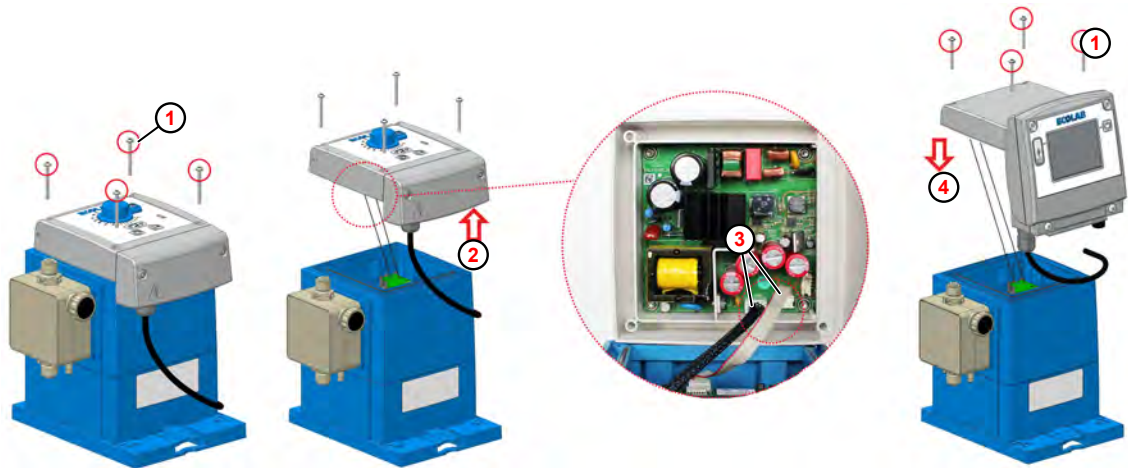

Fig. 33: Upgrade to EcoAdd
- ① Fixing screw
- ② Remove the control unit
- ③ Plug
- ④ Place the control unit
1. Loosen the screws ( Fig. 33 , ① ) on the **EcoUp** control unit using a Torx spanner (TX25).
2. **EcoUp** Lift the control unit up and remove ② .
3. Remove both connectors ③ from the underside of the **EcoUp** control unit.
6. Place the **EcoAdd** control unit on the pump housing ④ .
7. Tighten the screws ① on the control unit (operating unit / upper part of the pump).